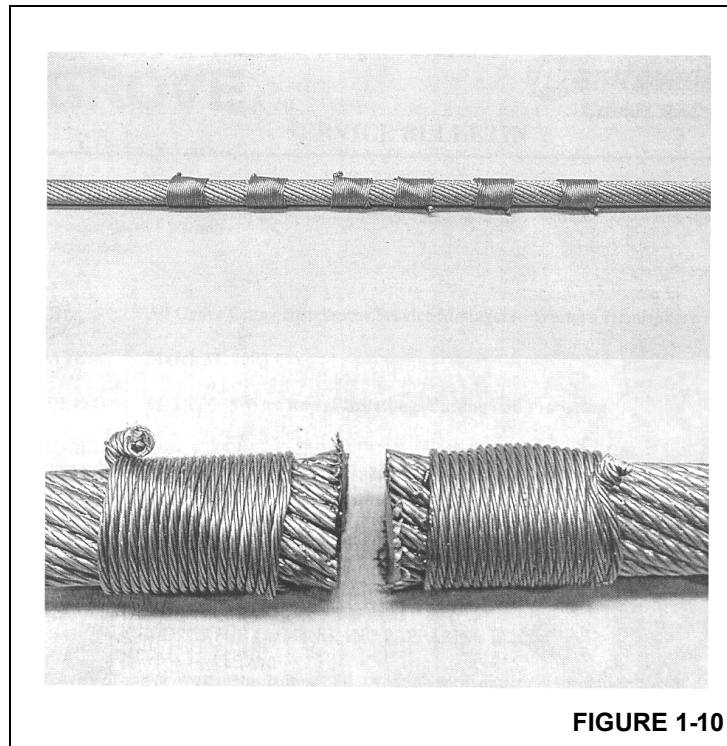

FIGURE 1-10
2. Before cutting the rope, make three separate bands with seizing strand on each side of where the cut is to be made (total of six bands for each cut). Each band is to have a minimum length of one and one half times the rope diameter. The two bands closest to the cut should be located at a distance equal to one rope diameter away from the cut. The four remaining bands should be evenly spaced at a distance equal to three rope diameters (Figure 1-10).